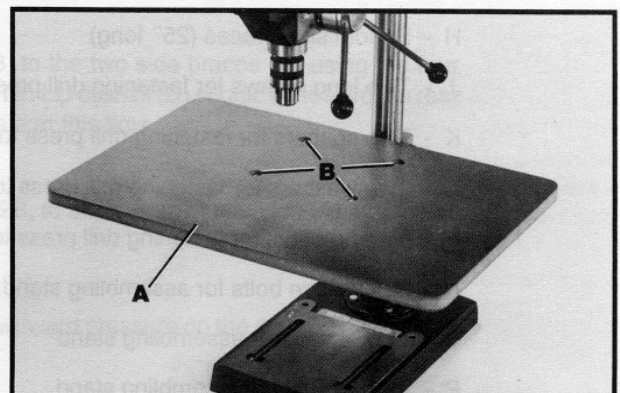

Fig. 12
Assemble the auxiliary table or the Accessory 11-091 Table (A) Fig. 12, to the drill press table using the four 1-1/8" long screws (B), eight flat washers and four wing nuts supplied with the drill press